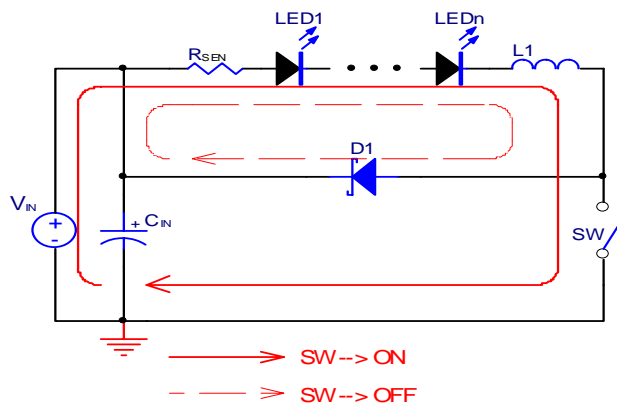

Figure 11. Power loop of MBI6651
10. When SW is ON/OFF, the direction of power loop should keep the same way to enhance the efficiency. The sketch is shown as Figure11.